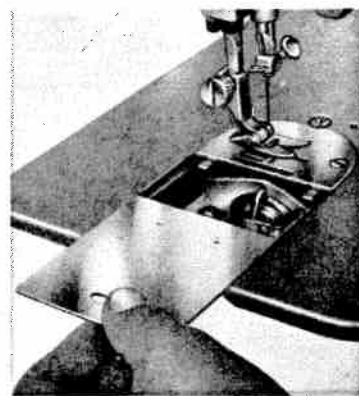

Fig. 8
3. Pull out slide plate (Fig. 8).